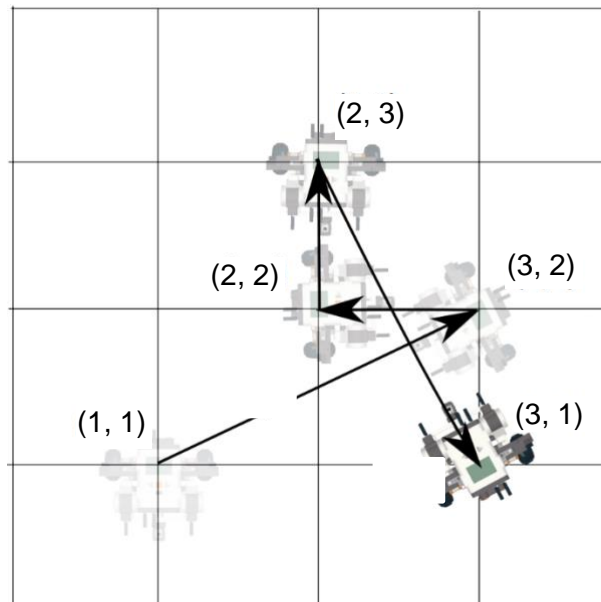

Figure 2: Example robot path 1.
2. Write a program to travel through a set of waypoints. For example, **Figure 2** shown below follows (3, 2), (2, 2), (2, 3), and (3, 1) in order.
1. Program the robot to travel to waypoints (3, 2), (2, 2), (2, 3), and (3, 1) as in **Figure 2**.